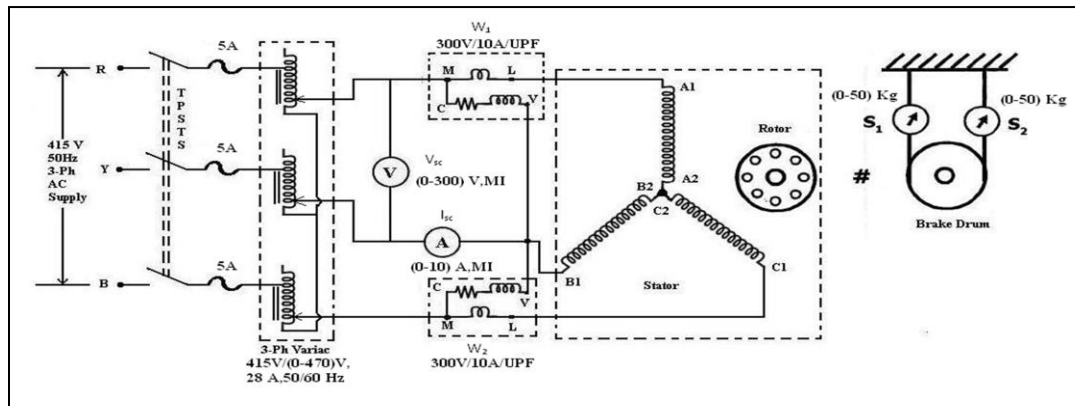

Fig 11.2: Circuit diagram for blocked rotor test
1. Connect the circuit as per fig 11.2.